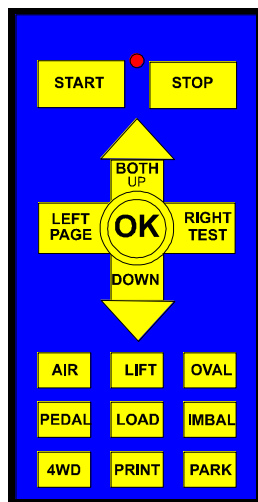

Fig.2
Then press <TEST> and <UP> to test position 0. (Figure 2)
6. On the remote control (figure 2) Press <TEST> and <OK>, wait for 3 sec, and press <TEST>. Then press <TEST> and <UP> (or <DOWN>) to test position 0. The brake tester is now in test position 0, and is now ready to be calibrated..